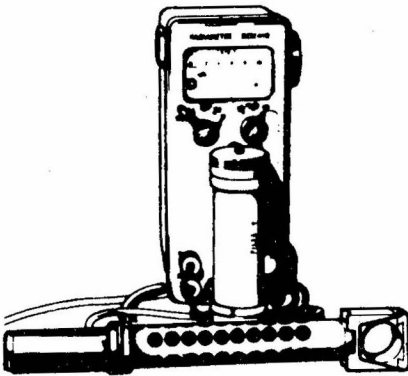

Fig. 16
**NOTE** — The reading can vary in the ratio of one of two, in both cases, depending on the source being or not facing a recessed part of the beta-gamma probe. Set the sensitivity selector switch to 10 and the probe as indicated in figure 16. The instrument shall read 3 to 10 c/s.